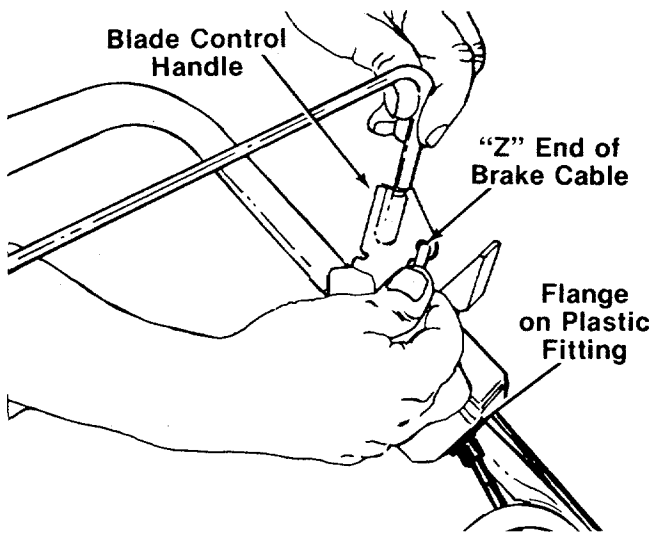

FIGURE 5.
7. Snap the plastic fitting on the end of the cable into the control housing. Hook the "Z" end of the brake cable into the hole in the blade control handle. See figure 5.